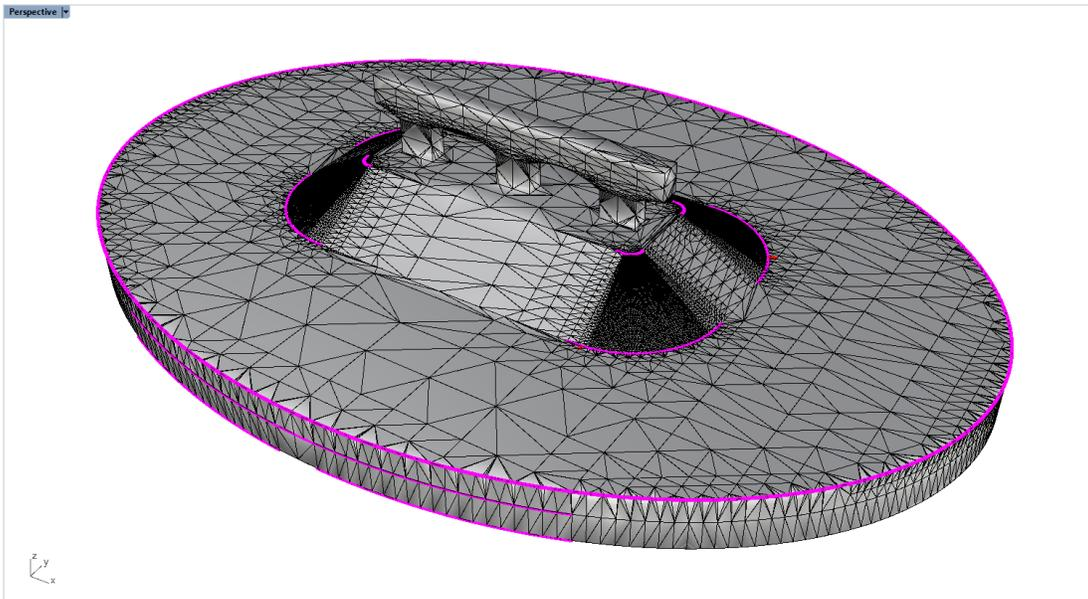
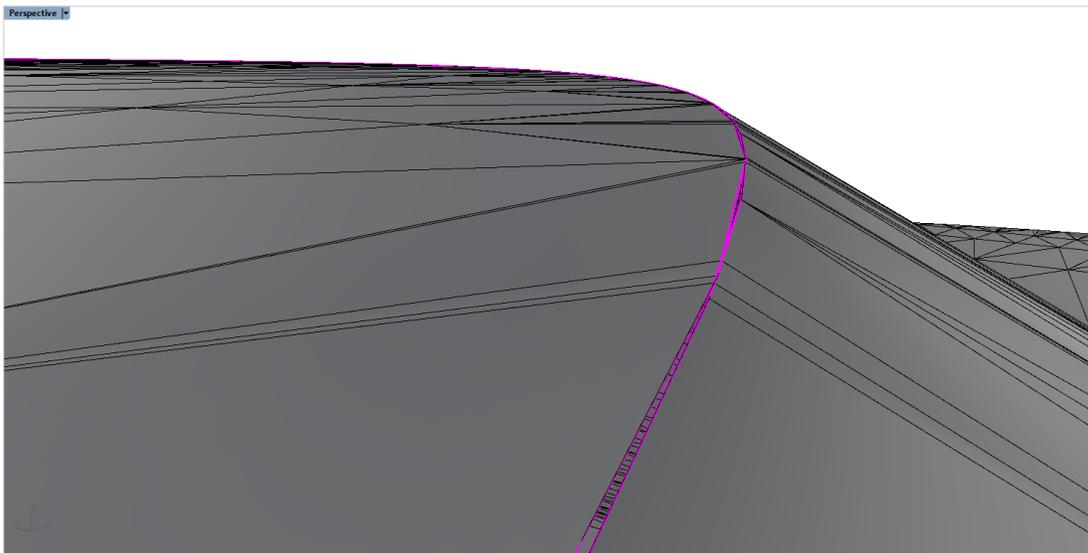

Figure 22: Naked edges (in pink) and clashing faces (red) after using *GInt* with *Tolerance* = 0.
Figure 23: Zoomed naked edges (in pink) after using *GInt* with *Tolerance* = 0. Compare with Figure 21.
- To check if there are any gaps or non-conformal edges/faces left, select the output mesh and type `_GHeal` or click on the  icon in the *Griddle* toolbar. Select the *ShowErrors* option, which will create two new layers, “NAKED_EDGES” and “CLASHING_FACES”, containing outlines of open mesh boundaries (e.g., internal holes) and non-conformal faces. The results show that there is a large number of gaps and some non-conformal faces (Figure 22 and Figure 23). This is because *GInt* *Tolerance* was set to 0 to intersect only those mesh faces that are in full contact. Naked edges can also be visualized with *Rhino*’s `_ShowEdges` command.